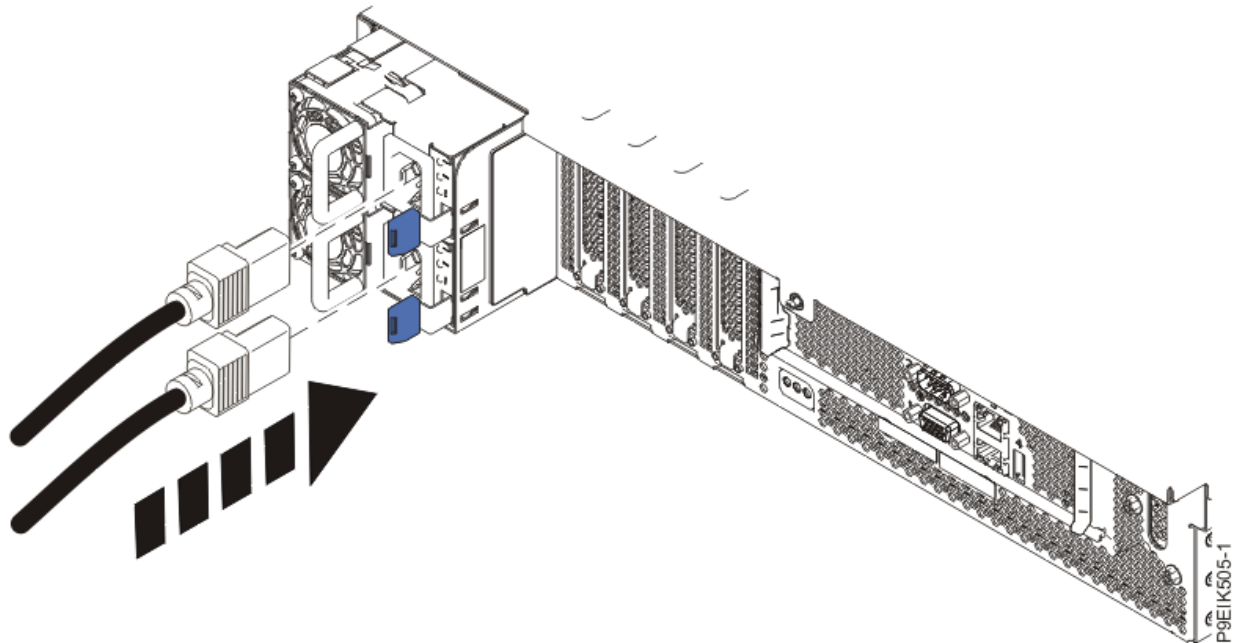

Figure 35. Connecting the power cords to the system
2. Using your labels, reconnect the power cords to the system unit as shown in Figure 35 on page 48.